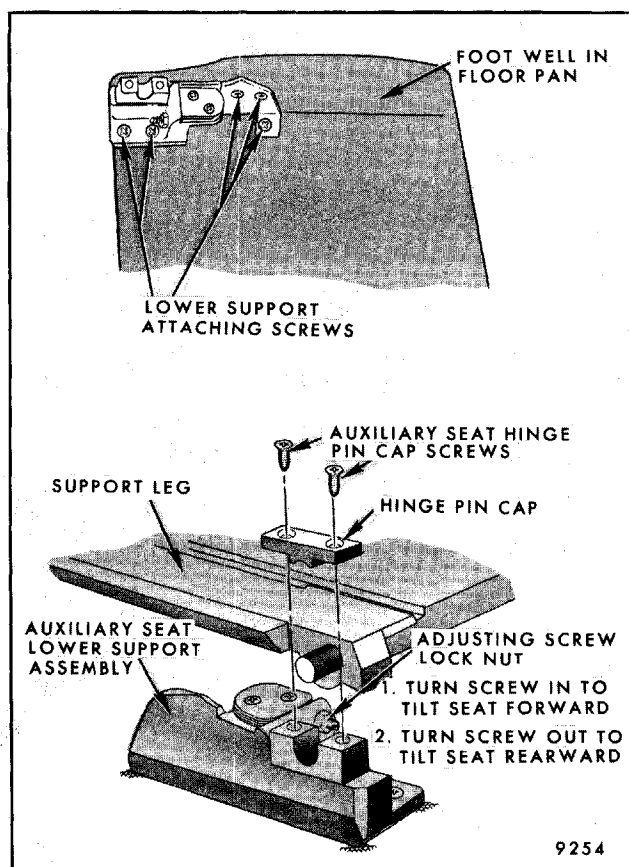

Fig. 9-72-Auxiliary Seat Lower Support and Adjustment - Cadillac Limousine Styles
4. Remove auxiliary seat hinge pin cap screws; then remove cap and auxiliary seat assembly (Fig. 9-72).
3. Loosen the hex head adjusting screw lock nut at both inboard and outboard support (see Fig. 9-72).
4. Carefully turn the adjusting screw (see Fig. 9-72) at both supports the SAME AMOUNT to allow the seat to pivot rearward further, thereby providing additional leg room for the auxiliary seat passenger. Tighten the adjusting screw lock nut at both supports.
2. Remove lower support assembly attaching screws shown in Figure 9-72 and remove support assembly.